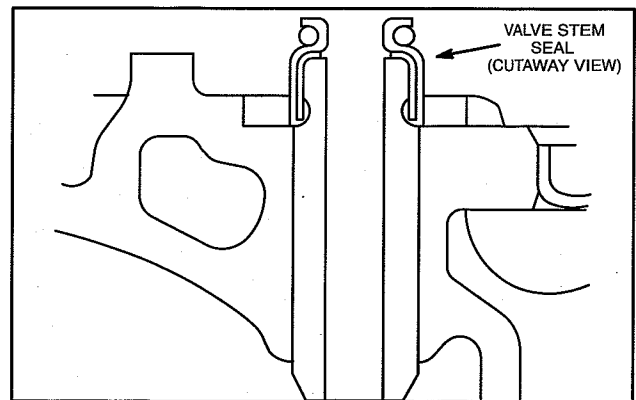

Fig. 26 – Install Valve Stem Seals
1. Install new valve stem seals, Fig. 26. Oil inner surface and lip of seal before installing. Press seal on to valve guide bushing until it bottoms.